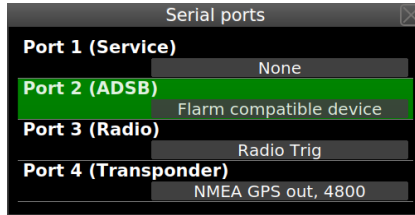

Figure 35: Serial port configuration window.
4. Select the *Serial ports* item. Figure 35 illustrates the window.
Configure the transponder RS-232 part to *NMEA* and set data rate to *4800*. Also, set Aetos port to *NMEA GPS out, 4800*, see Figure 35.